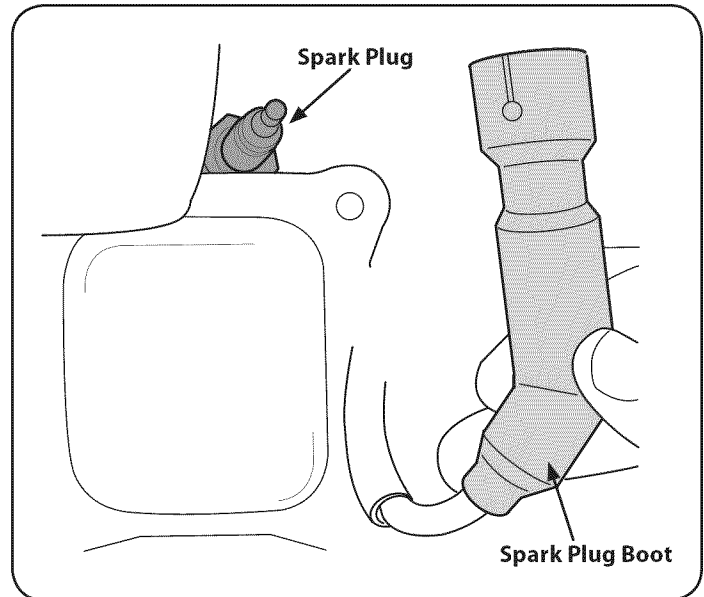

Figure 10
1. Remove the spark plug boot and use a spark plug wrench to remove the plug, Figure 10.